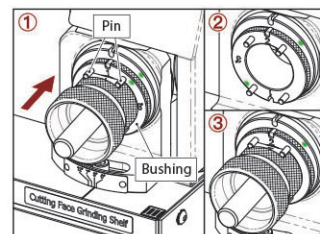

Fig. 6-2
2. 2 Flute Cutting Face Grinding (III) (Fig. 6-2)
- ① Insert the chuck set into the bushing on the Shelf (III), align Slot No.1 to the two pins where marked as No.1, push the chuck set gently until the grinding noise stops.
- ② Take the chuck set out and turn the bushing to No.2, align No.2 to the pin on the shelf, then insert it to the end.
- ③ Insert the chuck set into the bushing, align Slot No.2 to the two pins where marked as No.2, push the chuck set gently until the grinding noise stops.